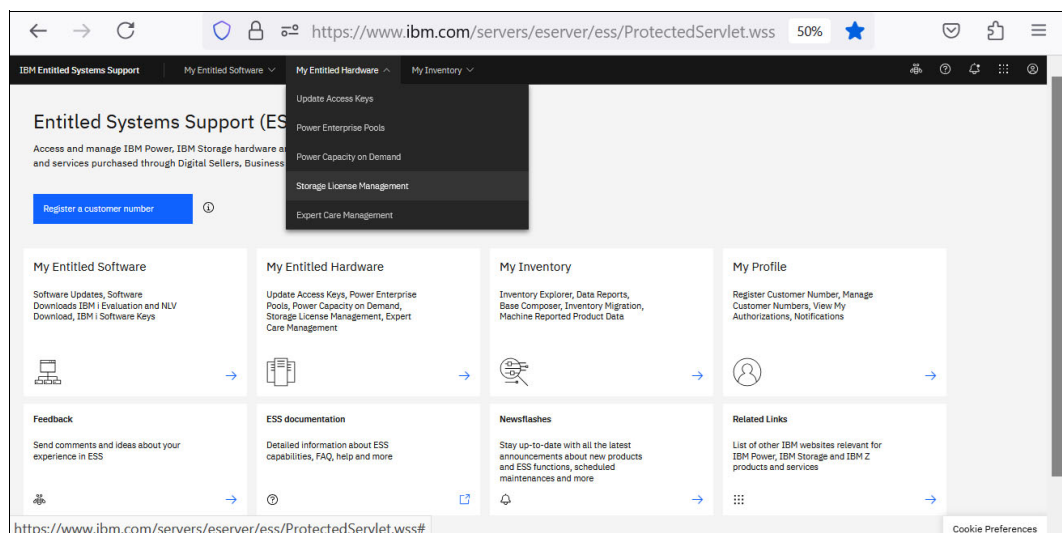

Figure 7-11 ESS website
1. As shown in Figure 7-11, connect to the [ESS website](https://www.ibm.com/servers/eserver/ess/ProtectedServlet.wss).